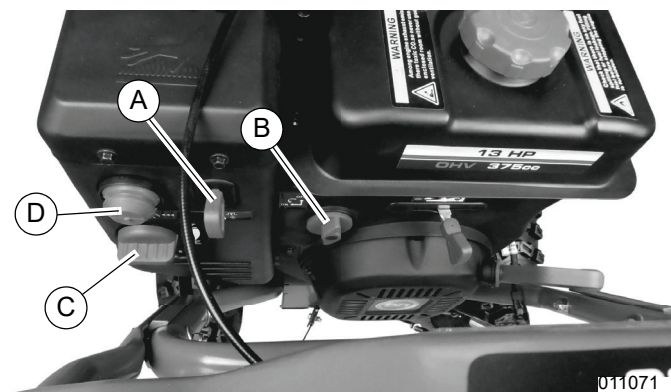

Figure 3-1. Manual Start
2. See Figure 3-1. Insert key (A) into key slot.